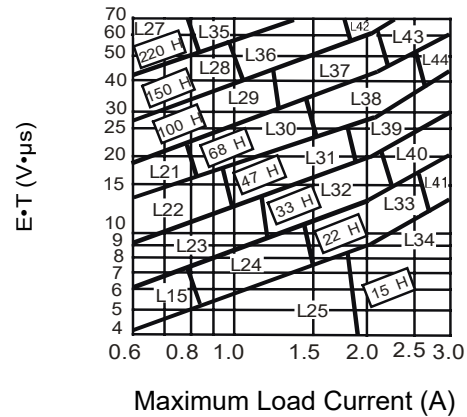

Figure 7: AP1501-ADJ
B. Use the  $E \cdot T$  value from the previous formula and match it with the  $E \cdot T$  number on the vertical axis of the Inductor Value Selection Guide shown in Figure 7.
D. From the inductor value selection guide shown in Figure 7, the inductance region intersected by the 34 (V• $\mu$ s) horizontal line and the 3A vertical line is 47  $\mu$ H, and the inductor code is L39.